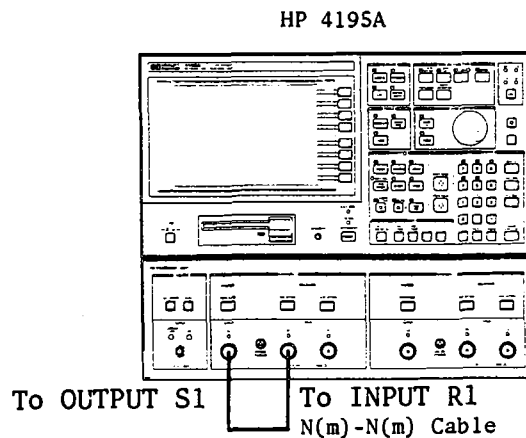

Figure 3-136. Phase Detector Tracking Adjustment Setup
1. Connect the equipment as shown in Figure 3-136